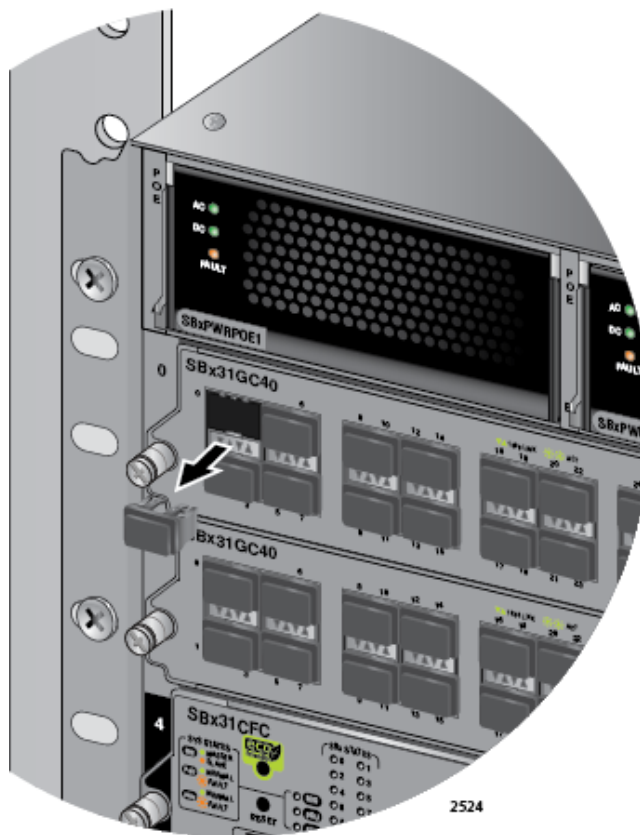

Figure 90. Removing the Dust Cover from a Transceiver Slot
2. Remove the dust cover from the slot chosen for the transceiver. Figure 90 shows the dust cover being removed from the first slot.